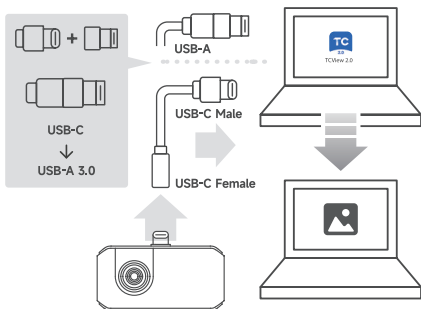

Figure 3.2.1
2. Connect the M192 camera to a Windows-based computer using the supplied adapter cable (see figure 3.2.1).